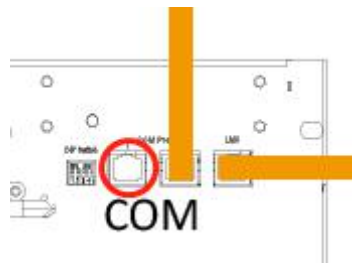

Figure 4-16 Terminal resistance in one of the HV900105
H. The last COM port of HV900105, which has no cable to connect, should be inserted with the terminal residence from HV900105 parts list. You can see the detailed information Figure 4-16.